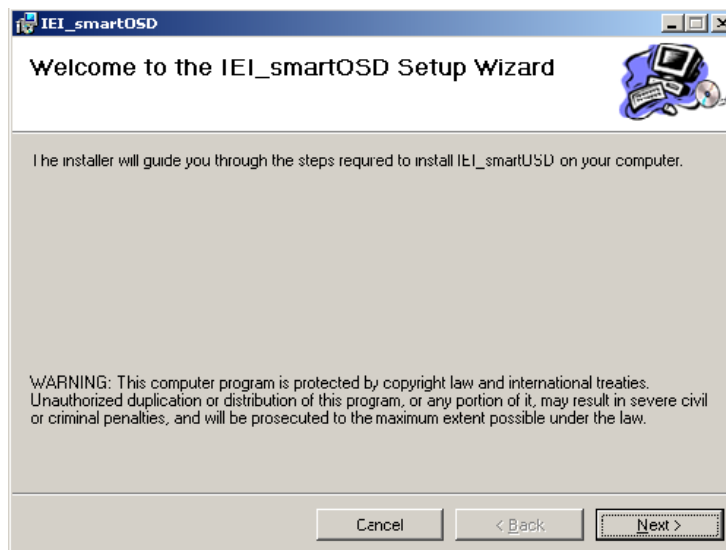

Figure 8-3: smartOSD Welcome Screen
Step 3: The welcome screen shown in Figure 8-3 appears.